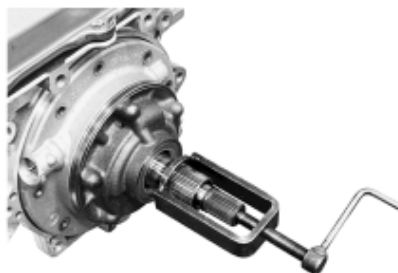

Figure 8.1 Removal of typical pump
- i. Use the pump remover to remove the pump, refer to Figure 8.1.